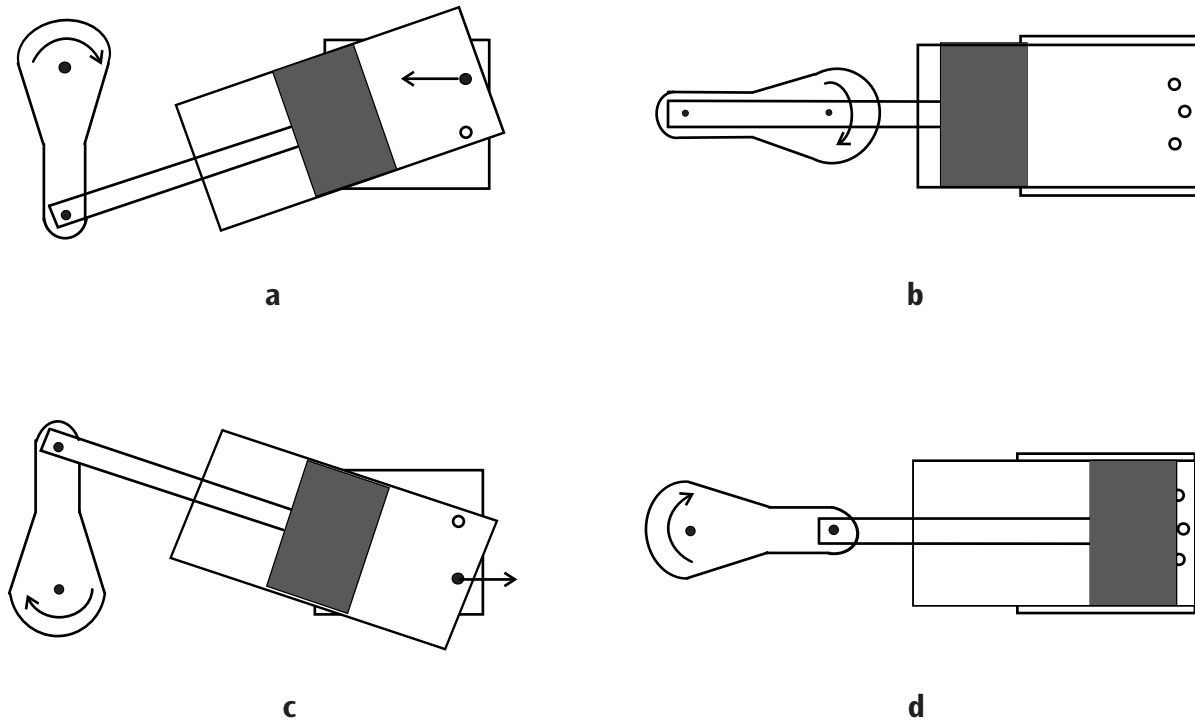

Fig. 1: Work cycle of an oscillating steam engine
Unlike a slide-valve steam-engine, an oscillating steam engine has a cylinder that rotates on a central shaft causing steam inlet and outlet ducts to open and close. Water in the boiler begins to boil, and thus steam is generated. The steam flows via the steam inlet hose 12 into the frame then through the steam inlet hole. As soon the opening of the cylinder is fed with fresh steam, steam flows into the cylinder and displaces the piston (Fig. 1, a). When the piston reaches its lowest point, the steam ducts are closed. This slack point is passed thanks to the inertia of a flywheel (Fig 1, b). In the next phase, the piston moves back, opens the steam outlet and pushes out the steam
(Fig. 1, c). The steam flows out via the exhaust steam hose ② and the exhaust steam pipe ⑯. The condensed water that accumulates drips out via the condensation hose ① into the condensation beaker ⑰.
When the piston has reached the dead point at the top, both of the steam ducts are closed again. The flywheel drags the engine past this top slack point, after which steam is once again fed in and the procedure repeats from the start (Fig. 1, d).